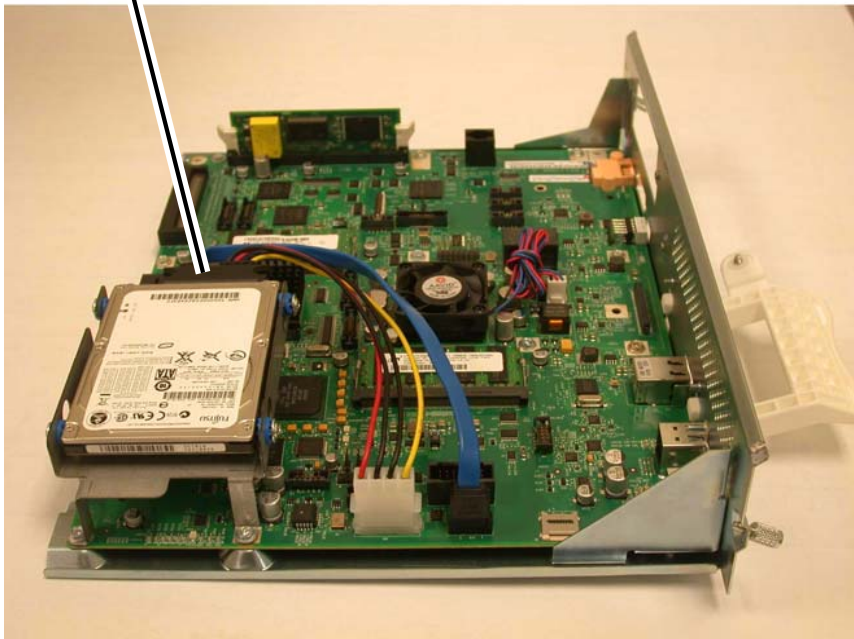

Figure 1 Disconnecting the Disk Drive Connector
4. Disconnect the connector (1) (Figure 1)